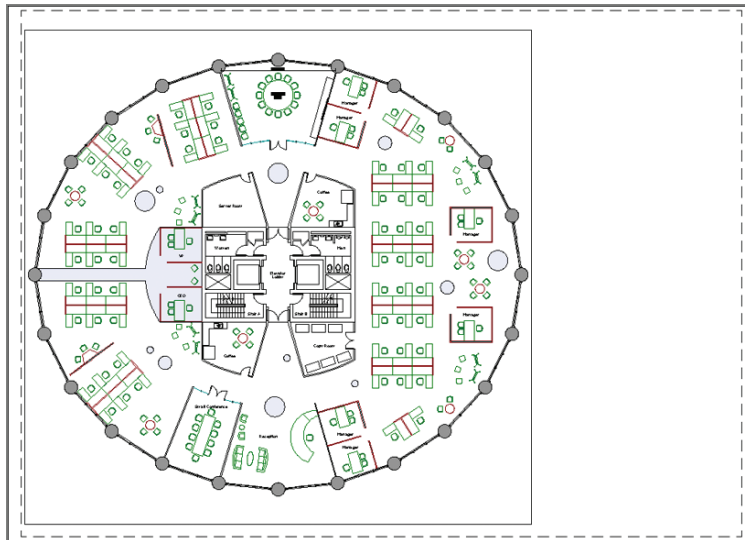

FIGURE 13.17 The drawing fits the paper at $3/16"$ scale (or 1:50 in metric)
9. Double-click the paper outside the viewport to switch back into paperspace. Select the viewport, and grip-edit it so that it closely surrounds the plan geometry. Move the plan to the left on the paper to make room for another drawing on this layout. Figure 13.17 shows the result.